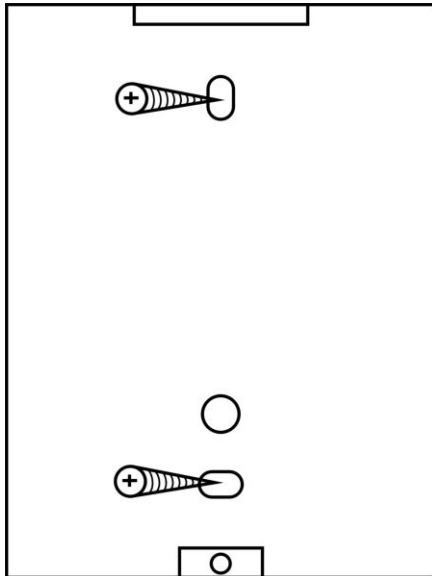

Figure 2
**8.1.1** On the wall of the aperture size machine on the pan is playing well with a hole, or installed 2 existing junction box plus connecting. (Figure 2)